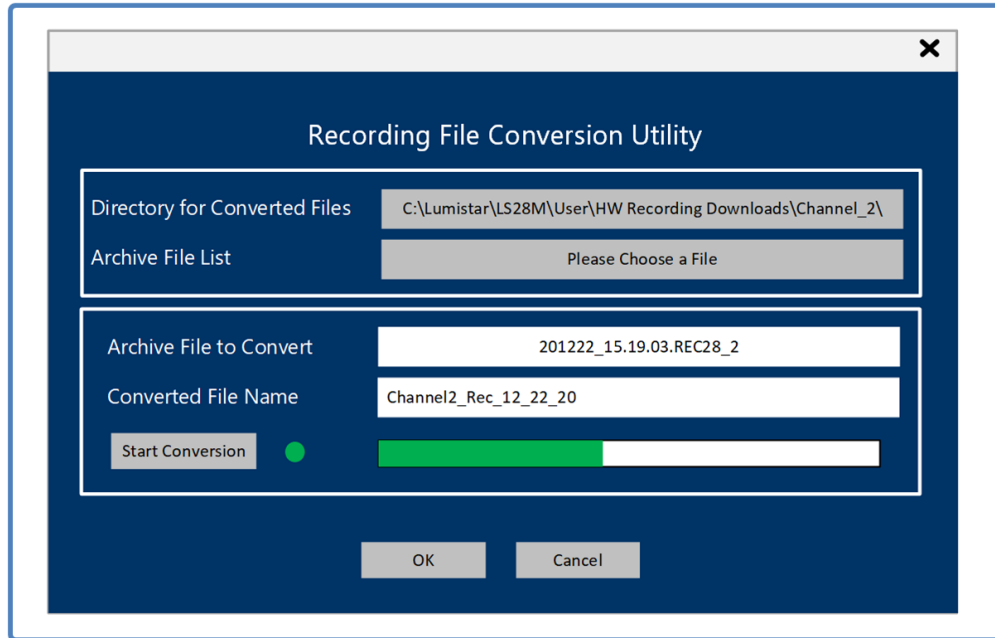

Figure 4-18 Tools – Recording File Conversion Utility
- e. Recording File Conversion Utility – This conversion utility allows the user to convert the LS-28-DRSM recording files to a format referred to as the TM1 format. This format allows for playback of the contents in the Lumistar LDPS_8x and LDPS_10x application software. Figure 4-18 illustrates the utility control window.